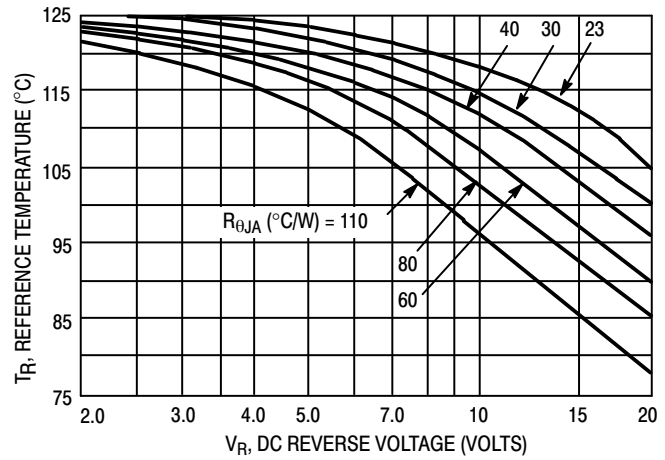

Figure 1. Maximum Reference Temperature
Figures 1, 2, and 3 permit easier use of equation (1) by taking reverse power dissipation and thermal runaway into consideration. The figures solve for a reference temperature as determined by equation (2).
Inspection of equations (2) and (3) reveals that  $T_R$  is the ambient temperature at which thermal runaway occurs or where  $T_J = 125^\circ\text{C}$ , when forward power is zero. The transition from one boundary condition to the other is evident on the curves of Figures 1, 2, and 3 as a difference in the rate of change of the slope in the vicinity of  $115^\circ\text{C}$ . The data of Figures 1, 2, and 3 is based upon dc conditions. For use in common rectifier circuits, Table 1 indicates suggested factors for an equivalent dc voltage to use for conservative design, that is: